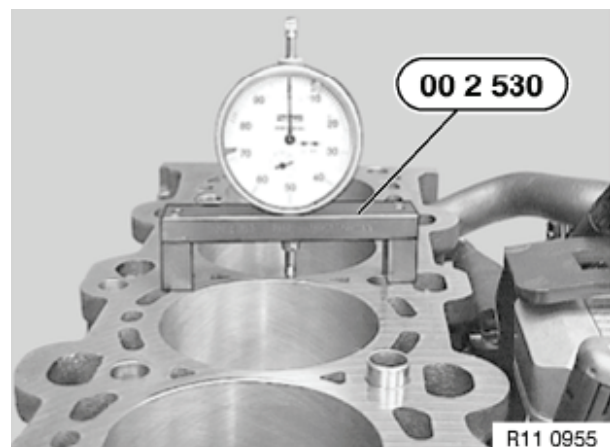

Figure 5-32
3. Place a dial indicator with measuring fixture OEM No. 00 2 530 on clean cylinder block (**Figure 5-32**). Set the dial to zero.